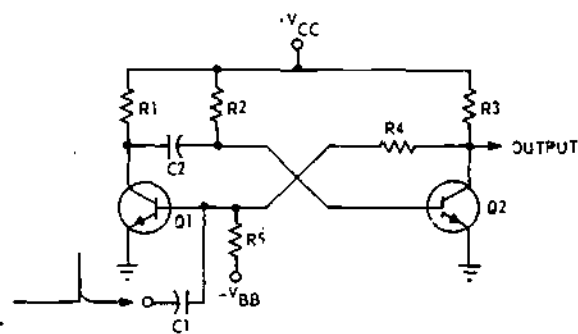

Figure 14
Questions 8 through 12, refer to Figure 14 and Chart 11.
8. The circuit in Figure 14 is correctly identified as a (triggered astable, monostable, bistable) multivibrator.